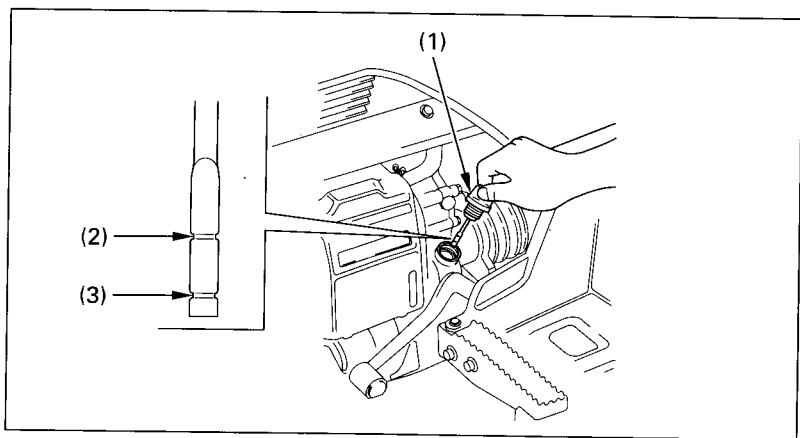

Fig. 4-10 (1) Oil filler cap/dipstick (2) Upper level mark
4. After a few minutes, remove the oil filler cap/dipstick (Fig. 4-10) from the rear crankcase cover and wipe it clean.
5. Insert the dipstick without screwing it in, then remove the dipstick and check the oil level. The oil level should be between the upper level mark (2) and the lower level mark (3) on the dipstick.
Recommended Oil Viscosity: SAE 10W-40. Other viscosities shown in Fig.4-10 may be used when the average temperature in your riding area is within the indicated range.
1. With the FOURTRAX on level ground, remove the oil filler cap/dipstick from the rear crankcase cover (Fig. 4-10).